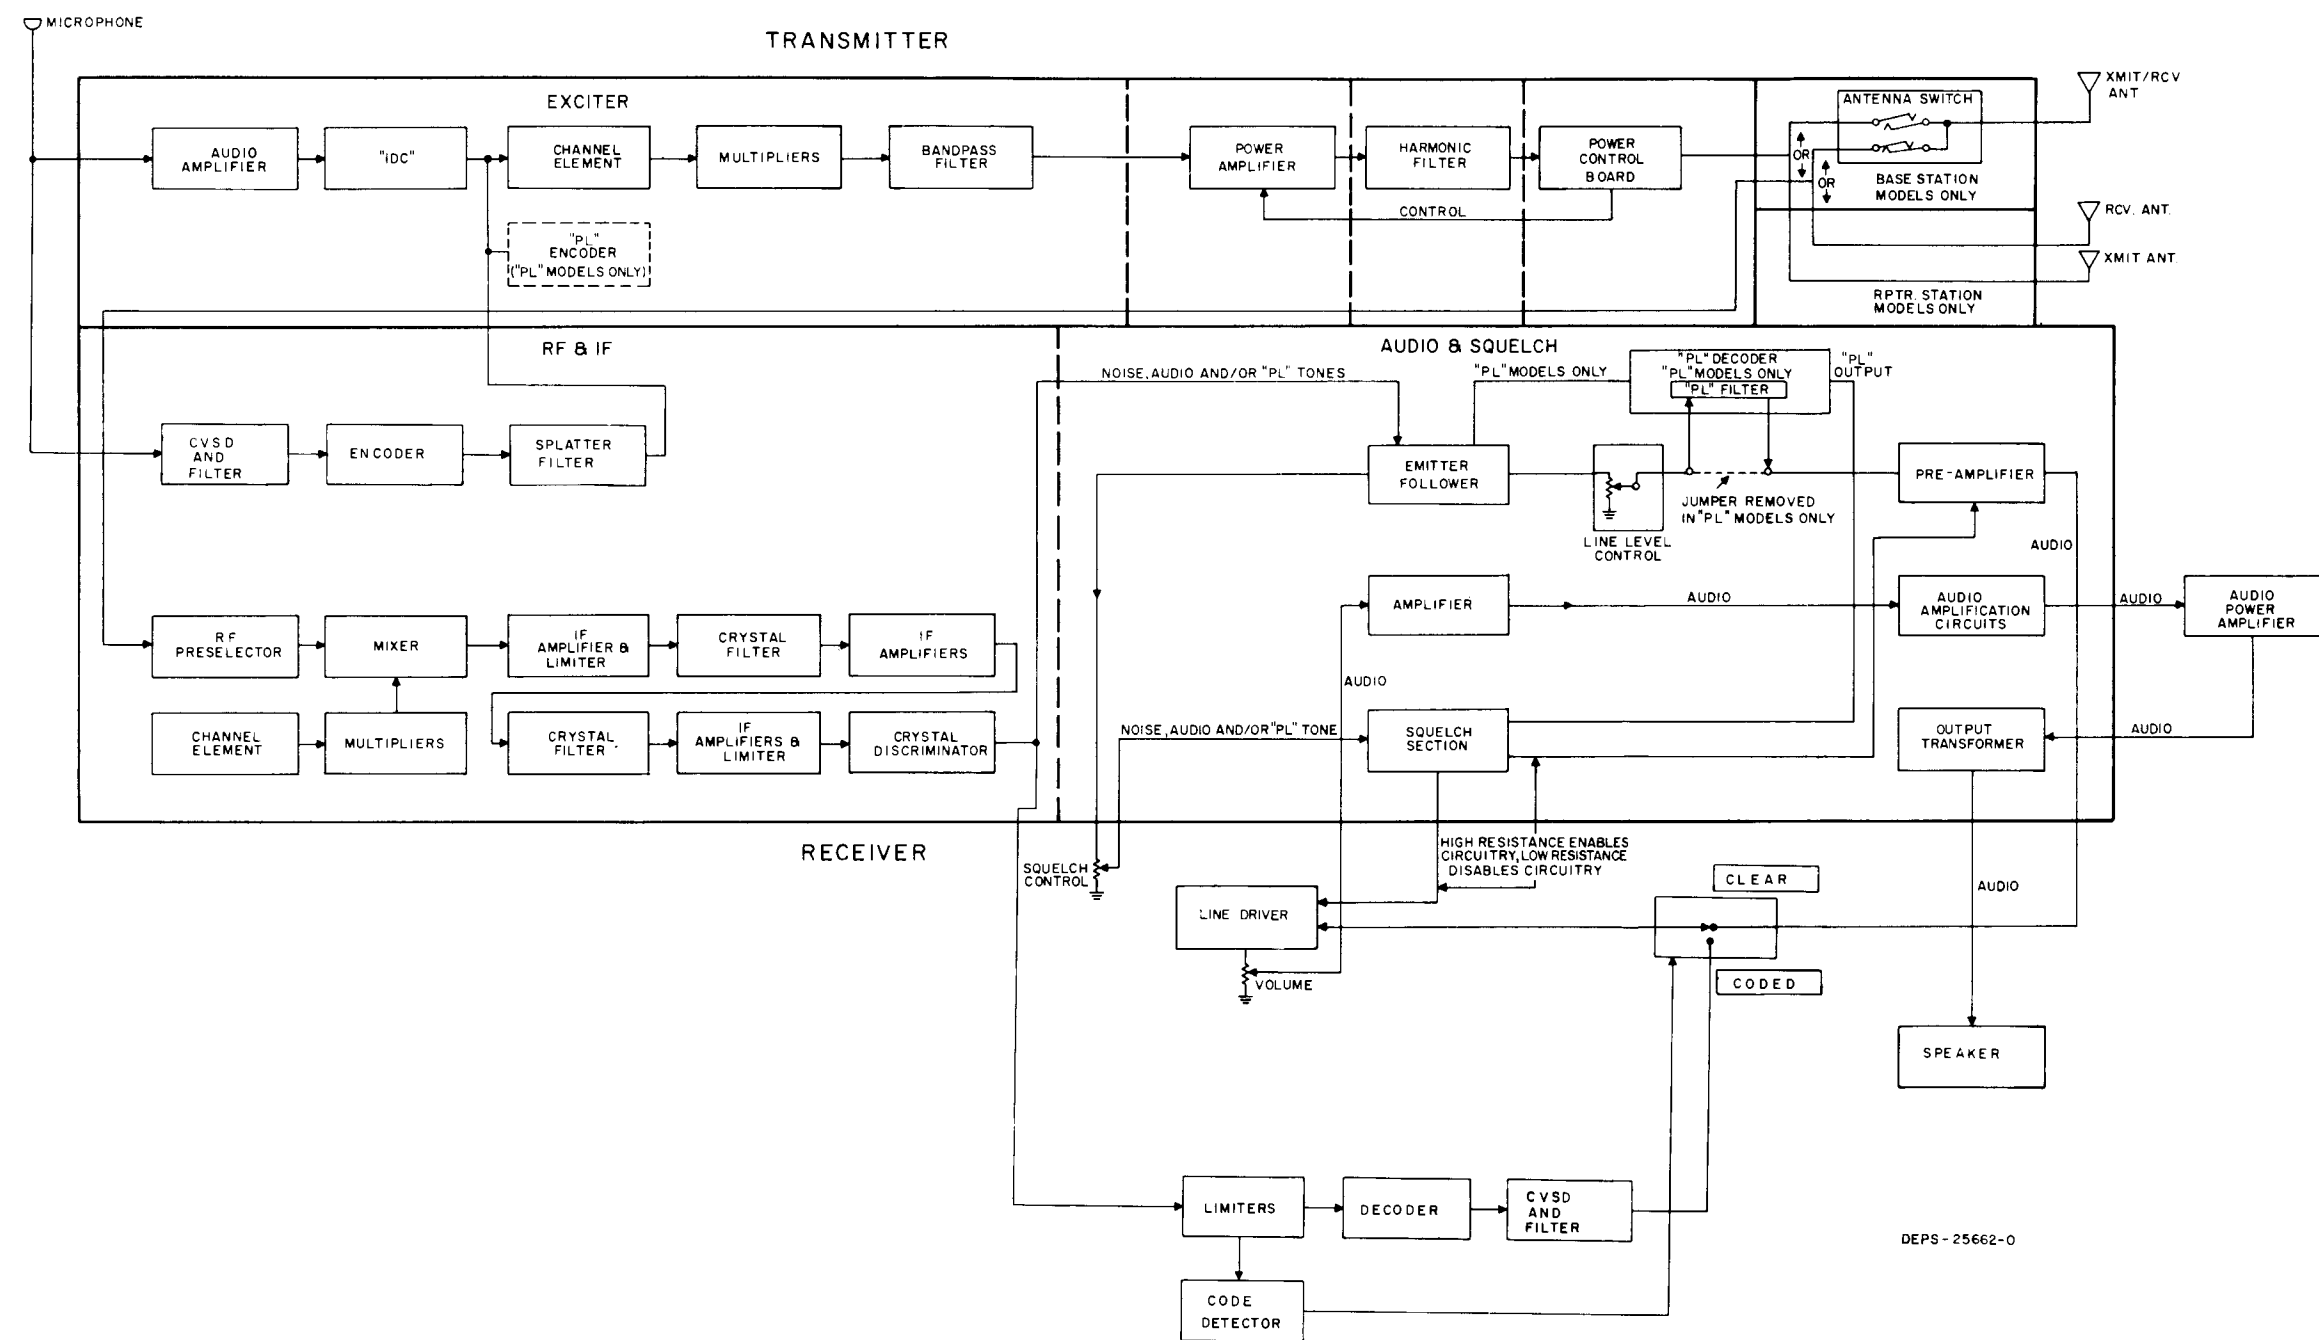

Figure 3. DVP Station Block Diagram
The transmitter generates a frequency modulated rf carrier signal of various power output levels depending upon the model. Refer to Figure 3 for functional operation. The transmitter consists of the following items:
**4.1** The receiver accepts rf carrier signals on a specific channel in the 132-174 MHz range. It provides clear voice audio in the 300 to 3000 Hz range and also digitally coded voice signals. Refer to Figure 3 for functional operation. The receiver consists of the following items: